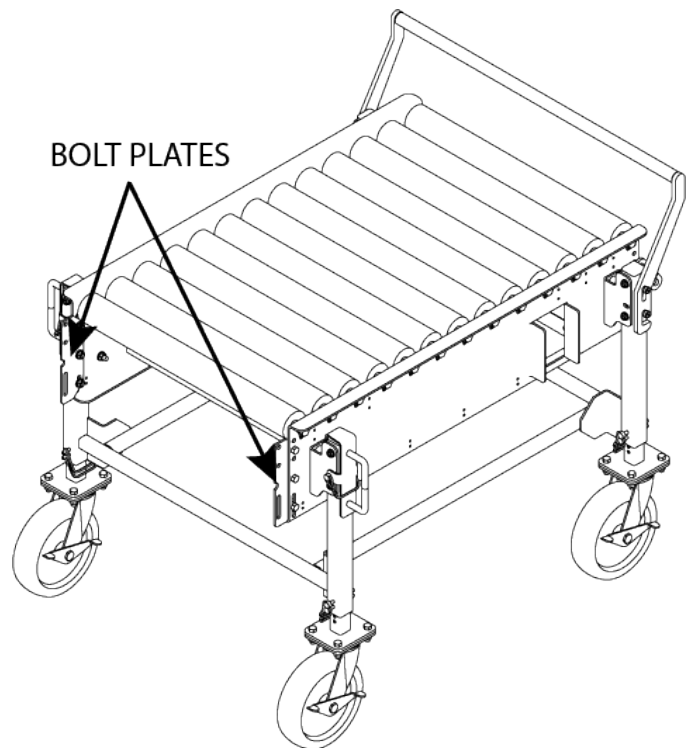

Figure 4: Impact Cart Connection Plate
1. On one side of the Impact Cart, locate the galvanized bolt plate featuring a slot and nut and bolt assembly (see Figure 4). Loosen the nut and remove the bolt.